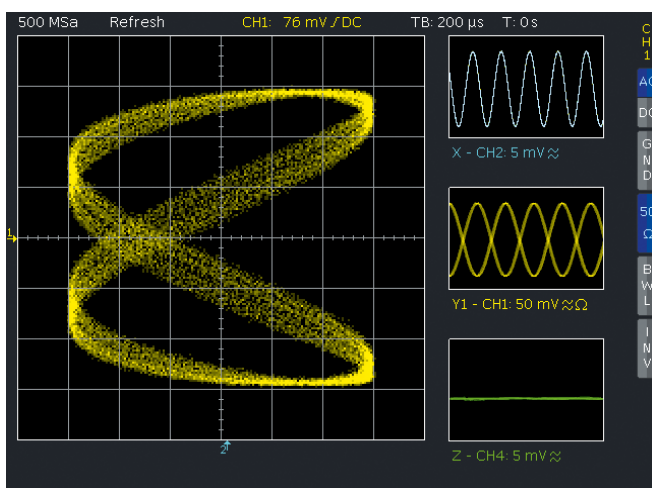

Figure 2: Persistence as a function of writing speed can be seen in the Lissajous curves. Luminance modulation via Z channel is set up to 100%.
The X-Y-(Z) operation can also be directly accessed via a dedicated key, so no entering of display menus is necessary. The X-Y-(Z) curves (see figure 2) are displayed in a square main pane, whereas the X, Y and Z signals are shown in additional small preview panes as curves in the time domain. On closer examination of figure 2, the persistence of X and Y signals can be seen in the Lissajous diagram. Controlling the Z channel (e.g. CH 3) provides for an additional luminosity modulation as used e.g. in constellation diagrams. Of course, cursor measurements are also available in X Y Z mode of operation.